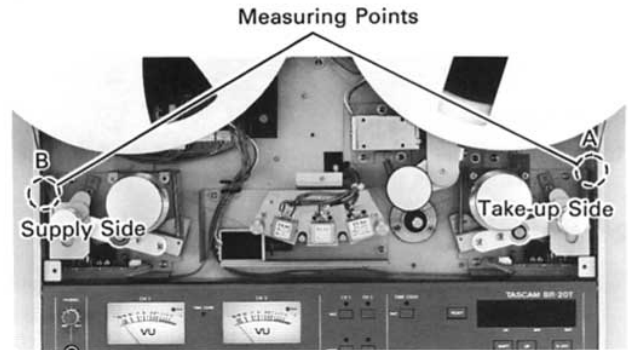
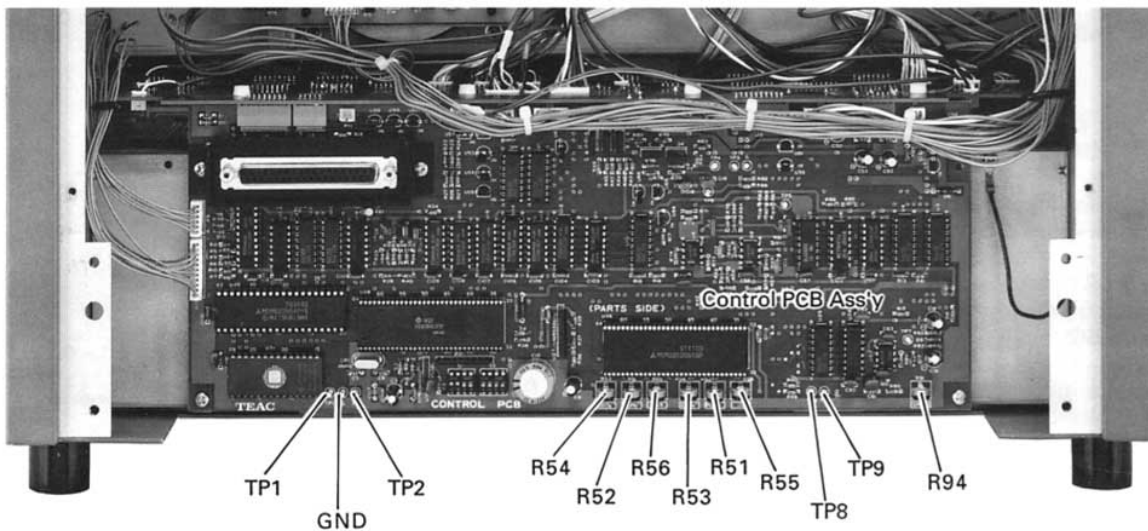

Figure 5-6. Tape Tension Measurement Points
Figure 5-7. Tape Tension Adjustment Resistors
2. Enter EDIT mode, and, using a tentelometer T2-H20-M2, measure tape tension both at the supply (test point A) and the takeup (test point B) side (for test point locations, see Figure 5-6). Readings should be as follows :
Locate the following resistors on the Control PCB (Figure 5-7) and adjust them.
Run tape in PLAY and measure tape tension at A (takeup) and B (supply) test points shown in Figure 5-6.
Locate the following resistors on the Control PCB (Figure 5-7) and adjust them until tape tension is within specifications.
Short-circuit between TP-8 and TP-9 on the Control PCB (Figure 5-7), enter EDIT mode, and read the tentelometer at test points A (F.FWD, B.T) and B (REW, T.T) shown in Figure 5-6.
Locate the following resistors on the Control PCB (Figure 5-7) and adjust them until tension is within specifications.
1. Connect an oscilloscope between TP-1 and GND on the Control PCB (Figure 5-7).
Adjust resistor R94 located on the Control PCB (Figure 5-7).